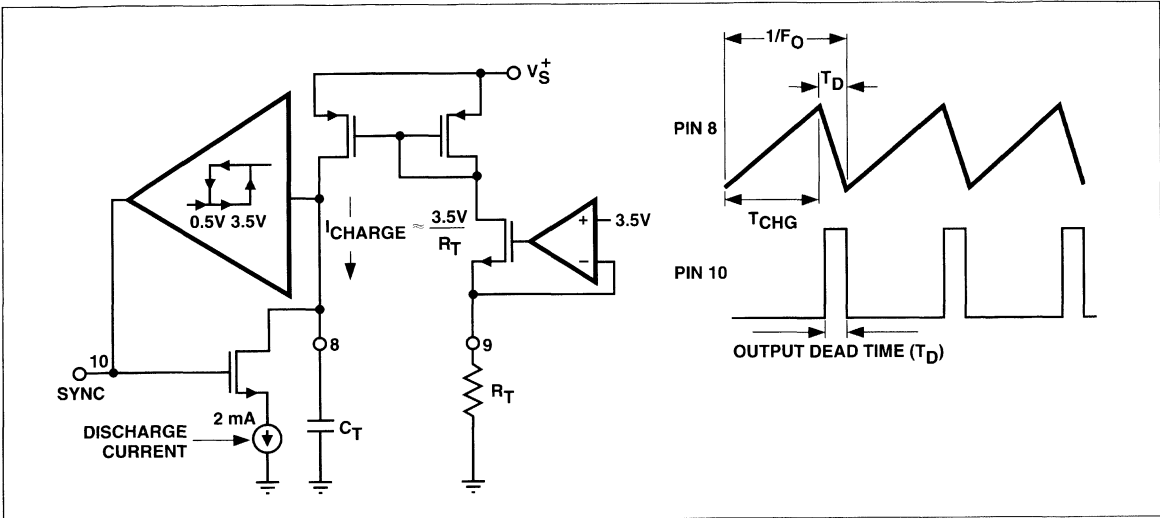

Figure 6 Oscillator Circuit
1) First determine the frequency of operation F_O and the desired "dead" time", T_D (see Fig.6 graph).
2) The current mirror in Fig. 6 , shows: